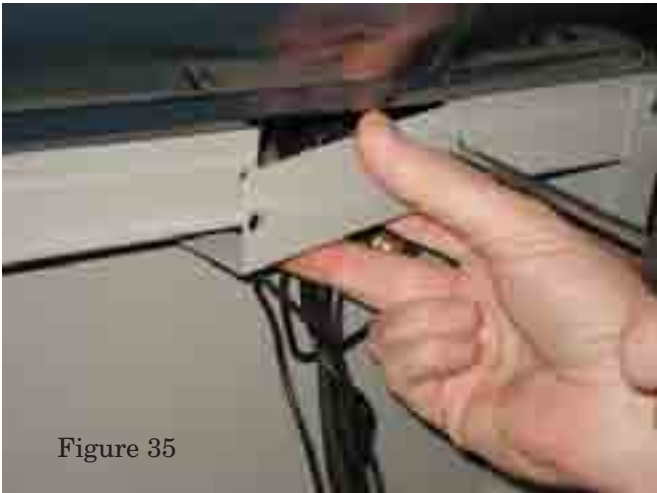

Figure 35
4. Remove the panel to gain access to the strain relief cable clamp. See Figure 35.